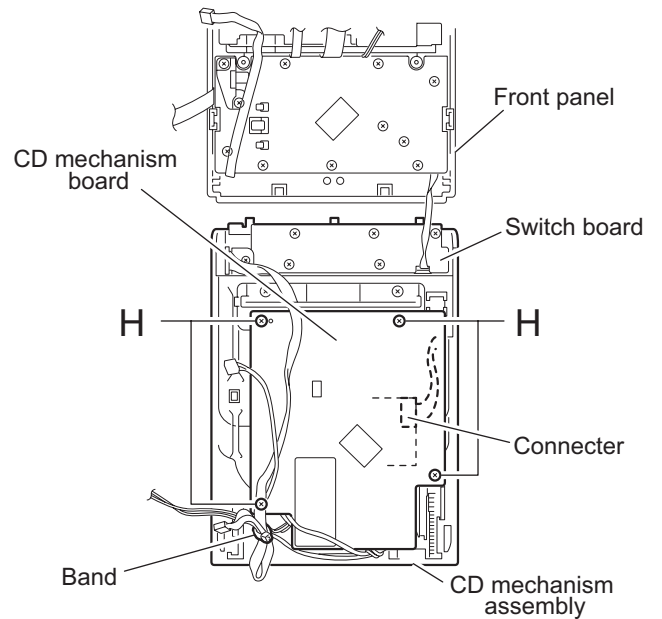

Fig.11
3.1.4 Removing the CD mechanism board (See Fig.11 ~ 13)